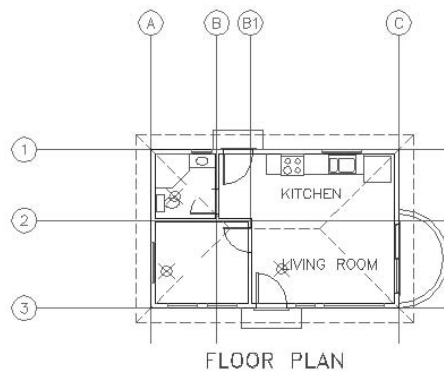

FIGURE B.12: The first room_info block is inserted.
5. The room_info block is inserted into the drawing in the living room. The room label is the only visible attribute (see Figure B.12). We set the other two to be invisible.